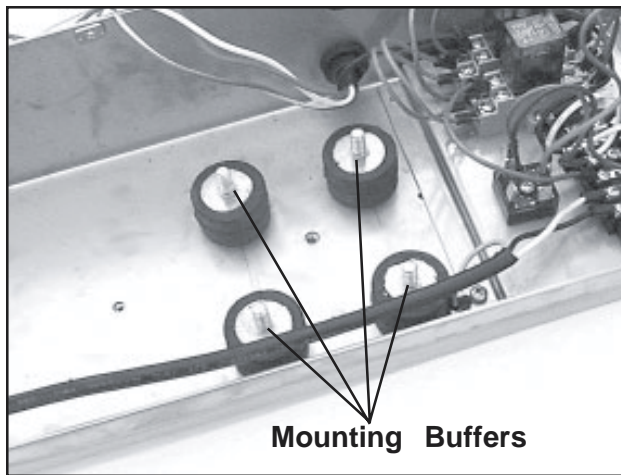

Figure 33. Mounting Buffers in the Utility Box
6. Set the lower end of the motor/actuator unit into the table with the lower brackets on the four mounting buffers in the utility box (Figure 33).